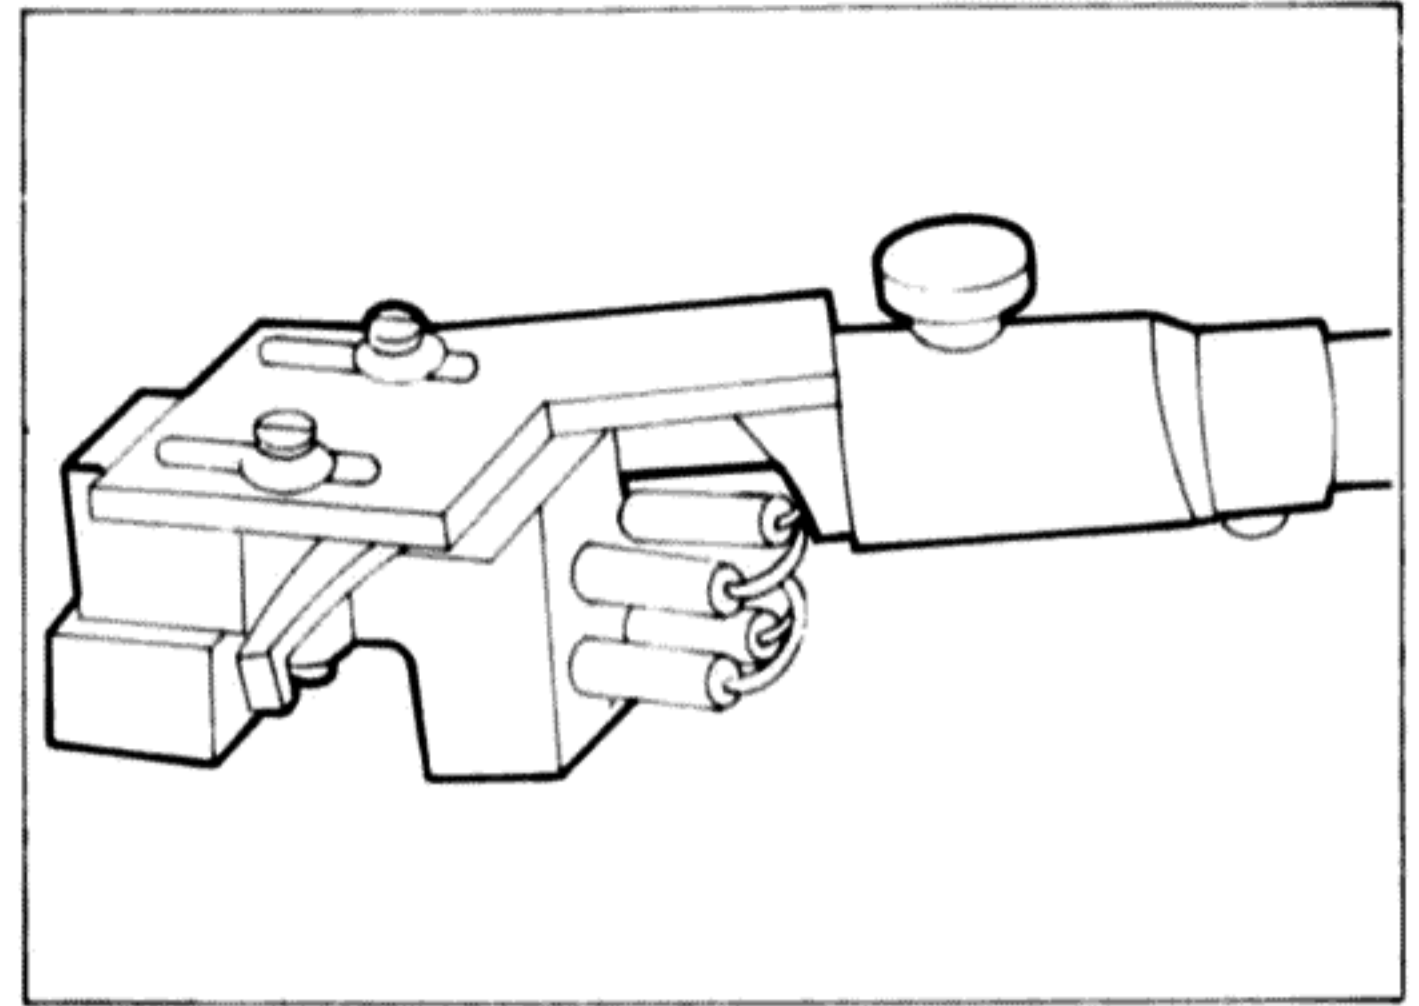

Fig. 3
6. Fit the headshell to the tone-arm (see Figure 3).